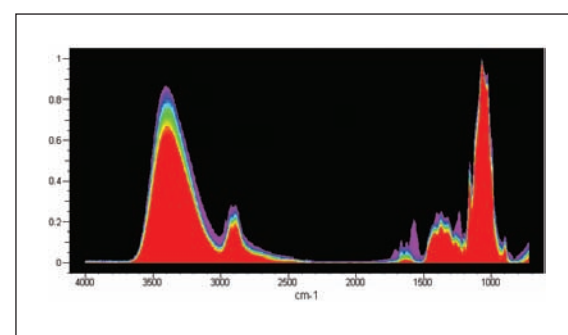
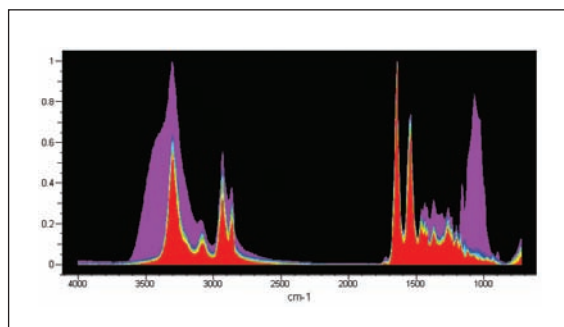
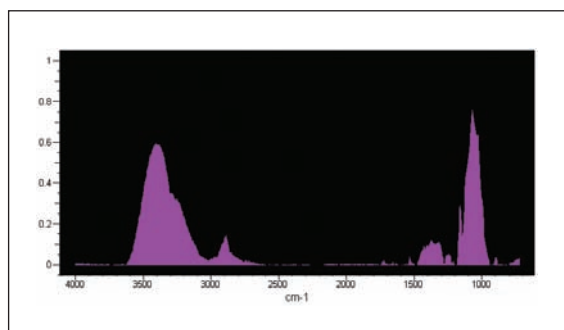

Figure 3. Overlap Density Heatmap of 35 Rayon Hits from Reference Database (OD Level = 0).
Figure 7. Overlap Density Heatmap of Query Spectrum and 15 Nylon Hits from Reference Database (OD Level = 0).
Figure 8. Overlap Density Heatmap of Query Spectrum and 35 Rayon Hits from Reference Database (OD Level = -88)
In the Overlap Density (OD) Heatmap (Figure 3) at OD Level of 0 (showing all areas of overlap density), the areas of highest overlap density in the overlaid spectra are displayed in red, areas of lowest overlap density are shown in purple, and all regions of moderate overlap are displayed in the intermediate colors.
Conversely, when combining the spectra for the query as well as the nylon hits from the reference database in an Overlap Density Heatmap at OD Level 0, the unique areas of overlap density (the areas in purple) are also clearly displayed (Figure 7). If the areas of highest overlap density are removed by adjusting the OD level, the remaining spectral features (Figure 8) are very similar to the OD Heatmap of the rayon only reference spectra (Figure 3). In other words, the unique features of the OD Heatmap formed by combining the query spectrum and the nylon reference spectra resemble the rayon spectra.